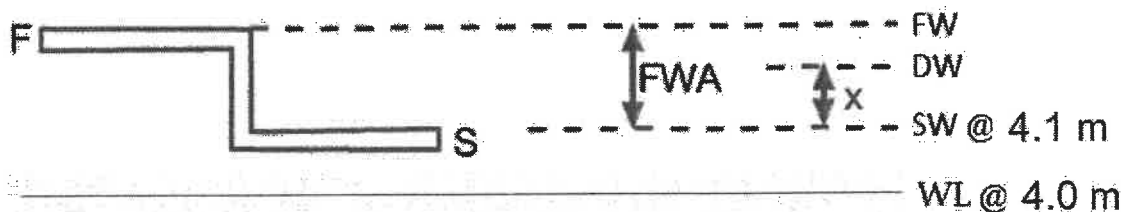

Figure 4(b)
- (b) A ship floating at 4.0 m draught in dock water of density 1010 kg/m^3 as shown in Figure 4(b) below. TPC is 10 tonnes and FWA is 120 mm. The maximum permissible draught at sea water is 4.1 m.